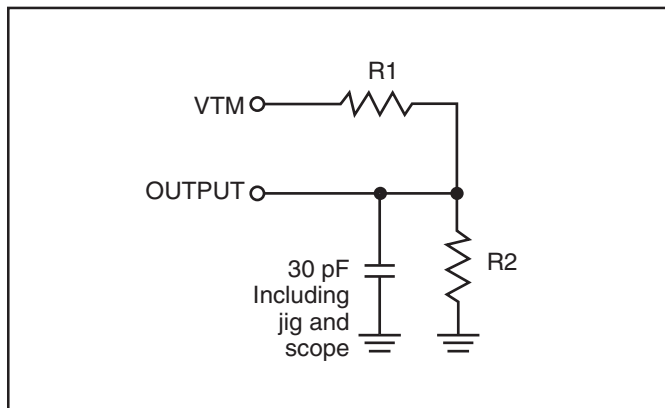

Figure 1
Output Load	See Figures 1 and 2
1. Test conditions assume signal transition times of 5 ns or less, timing reference levels of 1.5V, input pulse levels of 0.4V to $V_{DD}-0.3V$ and output loading specified in Figure 1.